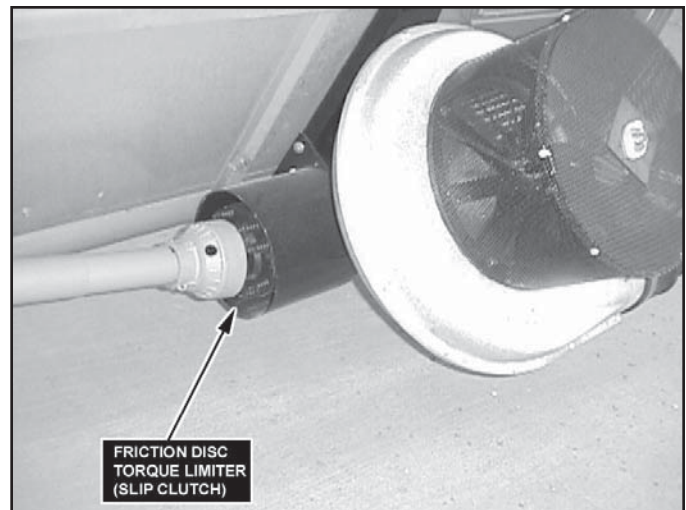

Figure 58, Check condition of torque limiter
1. Disconnect the PTO driveline from the implement (Figure 58).